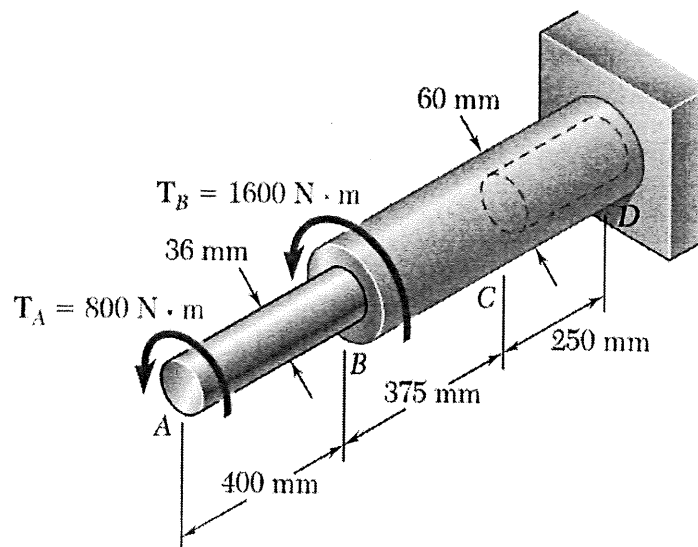

Figure 2
- b) Two horizontal shaft AD is attached to a fixed base at D and is subjected to the torques shown in Figure 2. A 40 mm diameter hole has been drilled into portion CD of the shaft. Knowing that the shaft AB is made of Aluminium ($G=27$ GPa) and shaft BD is made of brass in which $G=39$ GPa,